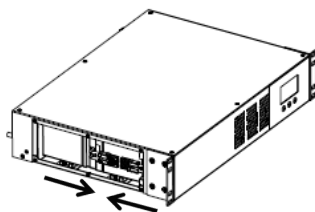

Figure 2
3. Verify proper polarity of the Anderson connectors. Slide the connectors together and press both ends until the connectors snap into place. (**FIG. 2**).